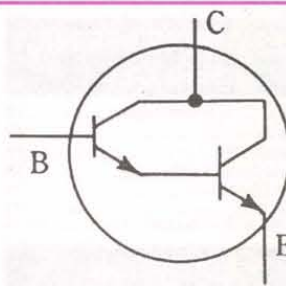

Figure 3 — NPN Darlington Transistor Schematic Symbol
Q2, the Darlington transistor (Figure 3), is merely two NPN transistors internally connected together in a "Darlington pair," which multiplies the gain of each. It is, essentially, a very high-gain transistor, taking very little current input at the base (B) to allow large current flow from the positive collector (C) through the emitter (E) to ground.